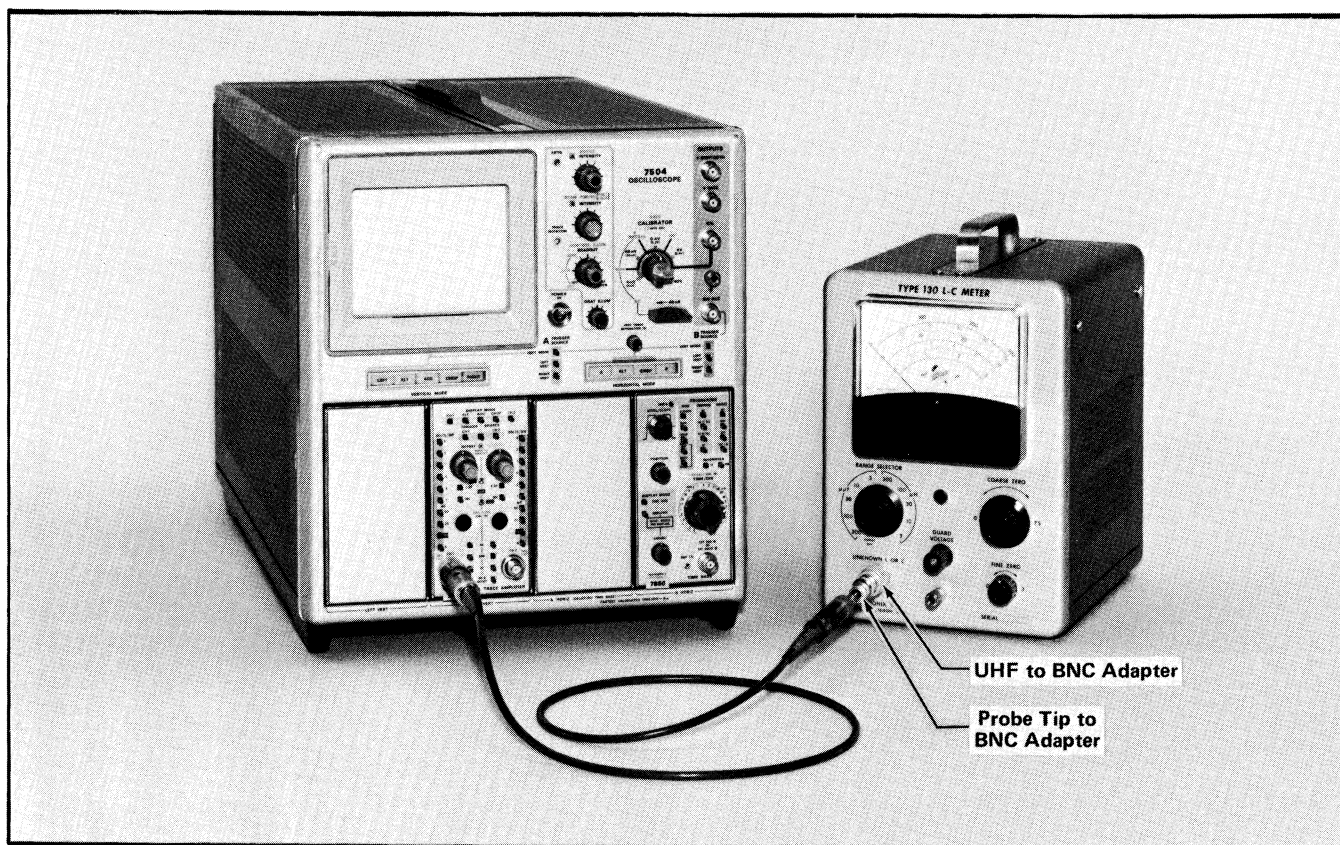

Fig. 5-6. Equipment setup for step 6.
a. Equipment setup is shown in Fig. 5-6.